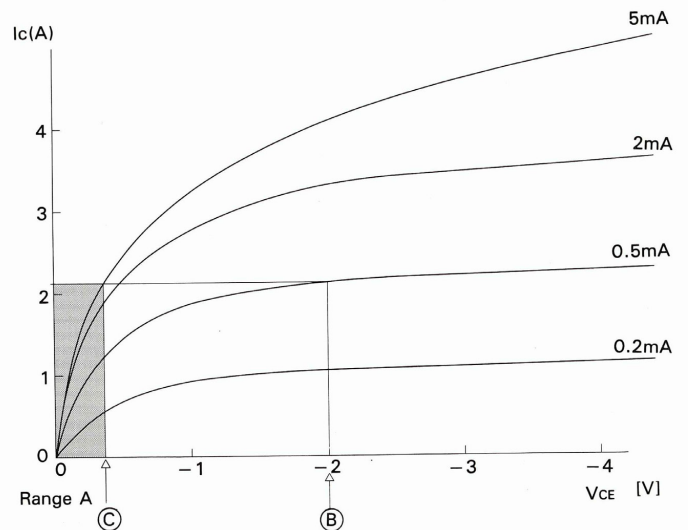

Fig. 21  $V_{CE}$ - $I_c$  characteristic
When the output is high, Q5 turns on, and  $V_a$  rises as  $V_o$  rises. Q5's  $V_{CE}$  decreases down to the Saturation Range A in Fig. 21 because  $V_H$  is fixed. Here, if the Darlington-connected Q5 and Q101 are considered to be one transistor,  $Q_a$ ,  $Q_a$ 's  $h_{fe}$  becomes extremely low in the Range A. ( $h_{fe}$ : 4200 at (B) and 420 at (C)). To drive  $Q_a$  with its collector current of 2.1 A, the required base current is 5 mA when  $V_{CE}$  is in the middle of the Range A and only 0.5 mA when  $V_{CE}$  is -2 V. Usually, Q101 can be driven with the base current around 0.2 — 0.3 mA. The values of the resistors are determined so as to make the combined resistance become 11 kΩ to have the collector current of 5 mA lest  $V_{CE}$  should decrease and come into the Range A. They are connected in parallel to allow enough current.